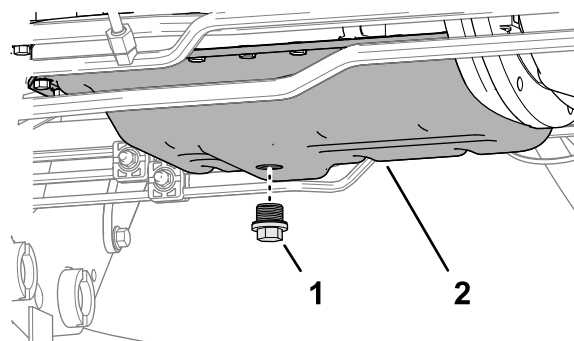

Figure 125
- Remove the drain plug (Figure 125) and let the oil drain into the pan.